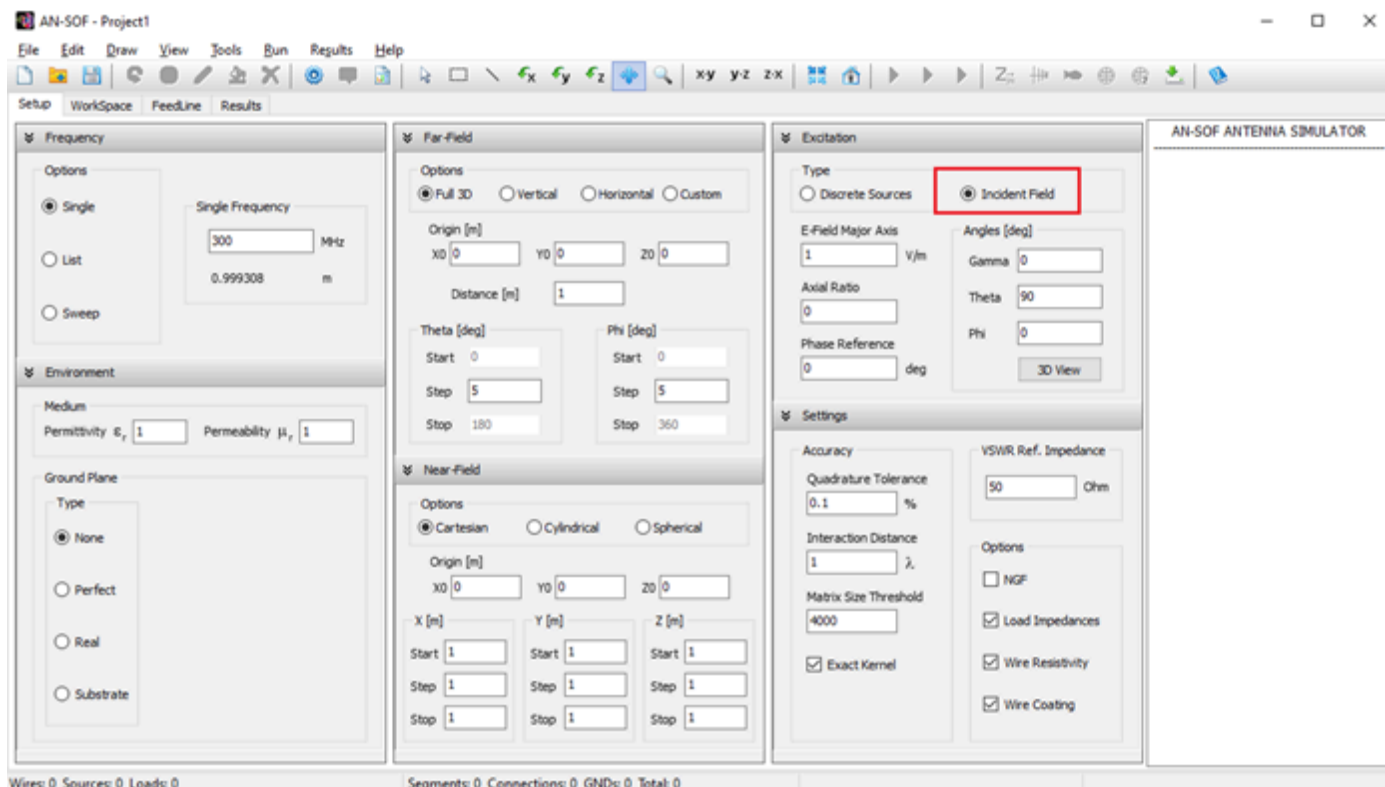

Fig. 1: “Incident Field” option in the Excitation panel of the Setup tab.
3. Select the **Incident Field** radio button (**Fig. 1**).